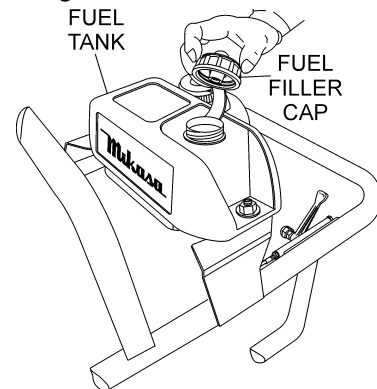

Figure 4. Fuel Tank
1. If fuel is low, remove the fuel filler cap (Figure 4) and fill with only **unleaded** gasoline. Motor fuels are highly flammable and can be dangerous if mishandled. **DO NOT** smoke while refueling. **DO NOT** attempt to refuel the pump if the engine is **hot!** or **running**.